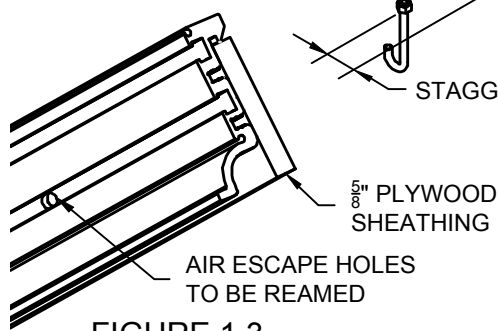

FIGURE 1.3
- 1.5) After the Sheathing is attached, flip the Frame Assembly over and ream the air escape holes through the Sheathing. (See Figure 1.3)